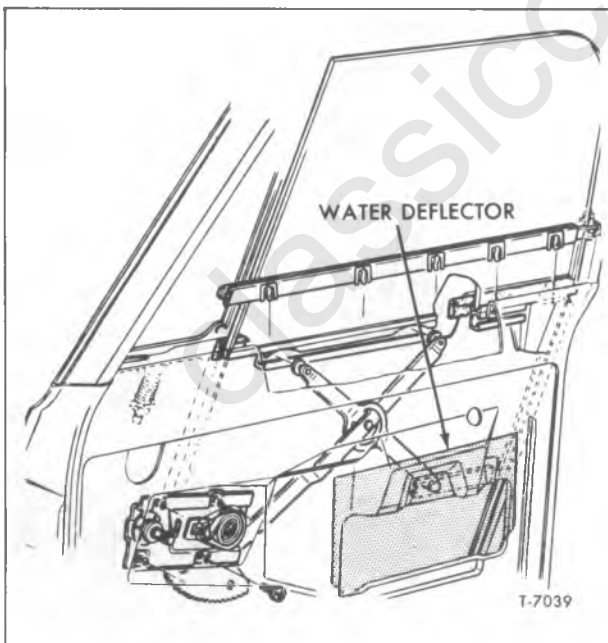

Figure 22—Regulator Assembly and Glass
3. Remove four trim panel screws and trim panel. Remove water deflector (fig. 22).
3. Install water deflector (fig. 22). Install four trim panel screws and trim panel.
3. Remove door arm rest and trim pad. Remove rain shield (fig. 22).
(Refer to Figure 22)
3. Remove door trim pad secured with four screws. Remove rain shield (fig. 22).